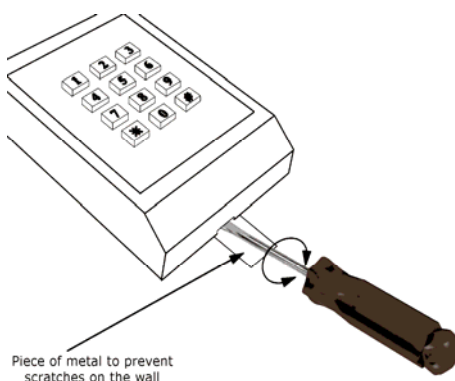

FIGURE 1: Open the Cover
2. Snap open the reader's front cover by inserting a wide screwdriver blade into the slot at the bottom edge of the cover, then twisting the blade gently (see Figure 1).